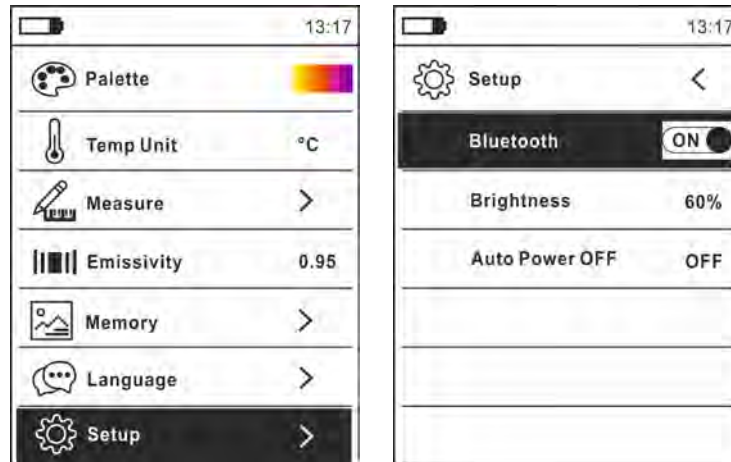

Fig. 19: Activation of Bluetooth connection
1. Press key , select menu "Settings" and activate the Bluetooth connection on the instrument (see § 5.2) as shown in Fig. 19